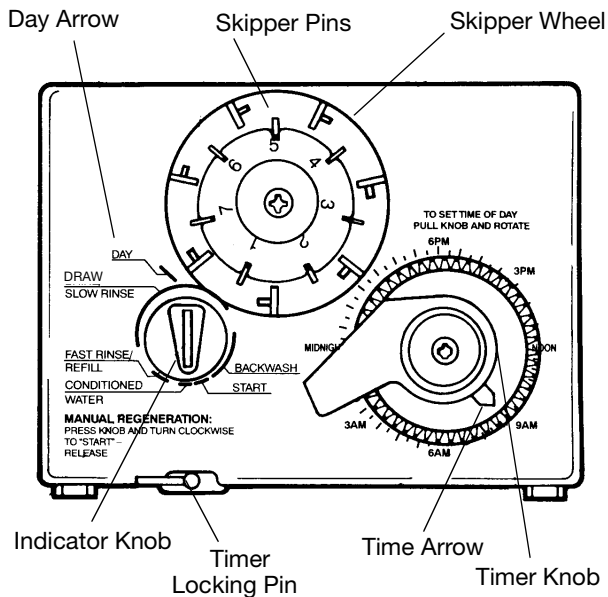

Figure 5
Note: The following steps will require turning the indicator knob (Figure 5) to various positions.
1. Set the number of days of regeneration on the skipper wheel (Figure 5).
Note: The Timer Locking Pin should always be horizontal (Figure 5) during operation.
Electricity is used only to run the control and to rotate the camshaft. All other functions are operated by water pressure. Therefore, in the event of a power outage, all the regeneration positions may be dialed manually by depressing the indicator knob and turning **COUNTERCLOCKWISE** (Figure 5). The following cycle times should be used for proper regeneration: